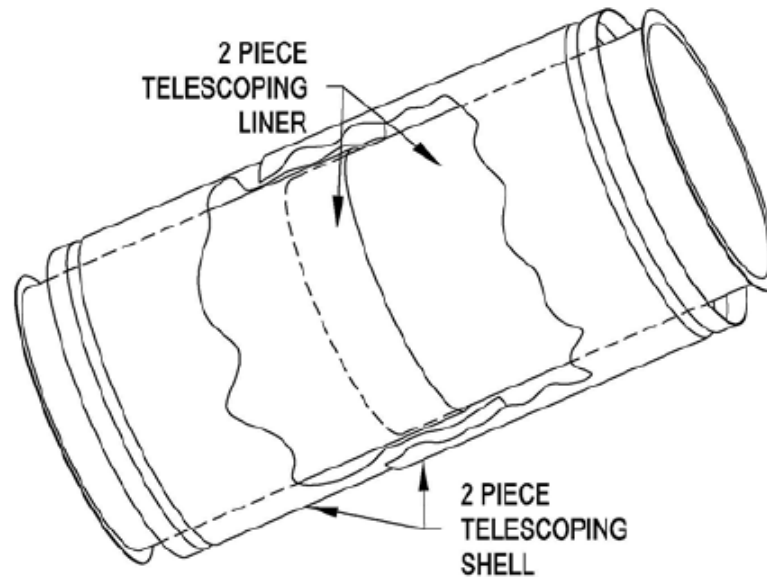

Figure 4. Adjustable Length (AL) Section and Joint
C. ADJUSTABLE LENGTH (AL) SECTION JOINT – Reference Figure 4. When required, use an Adjustable Length (AL) section and joint consisting of the following supplied components. Install with gas flow directed from the larger diameter telescoping liner to the smaller diameter telescoping liner with slope requirements as required by NFPA 96, or other applicable regulatory requirement. Ensure a min. 3 in. overlap of
- ii. **Wall Brackets:** Attach the supplied left and right, min. 1/4 in. thick, steel wall brackets to the vertical supporting construction using supplied 1/2 in. bolts/anchors at each of the provided through-hole locations (four per bracket). Ensure that the orientation of the wall brackets is as shown in Figure 4.